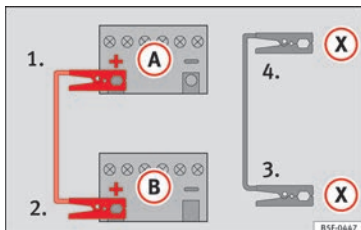

Fig. 164 Diagram of connections for vehicles with Start-Stop system.
- **For vehicles with Start-Stop system:** Connect one end of the *black* jump lead to a suitable ground terminal, a solid piece of metal in the engine block, or to the engine block itself » Fig. 164.